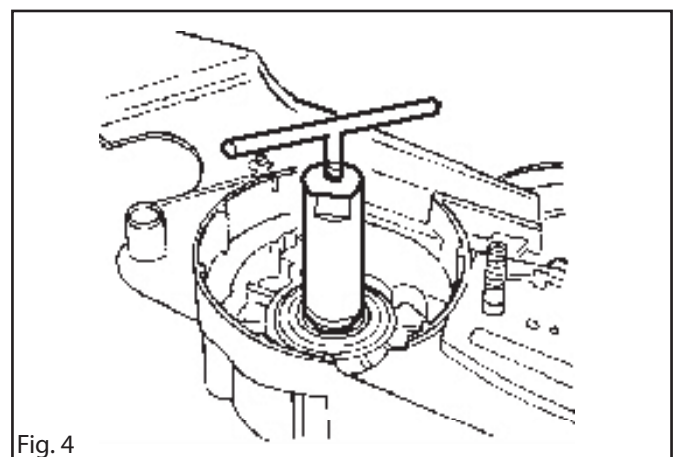

Fig. 4
5. Measure piston ring wear by placing it in the bottom of the cylinder bore and measuring the gap. See fig. 4. The piston ring gap should not exceed 1 mm.
7. If required remove the seals. Use tools 5025055-01 and 50491 40-01. See fig. 4.